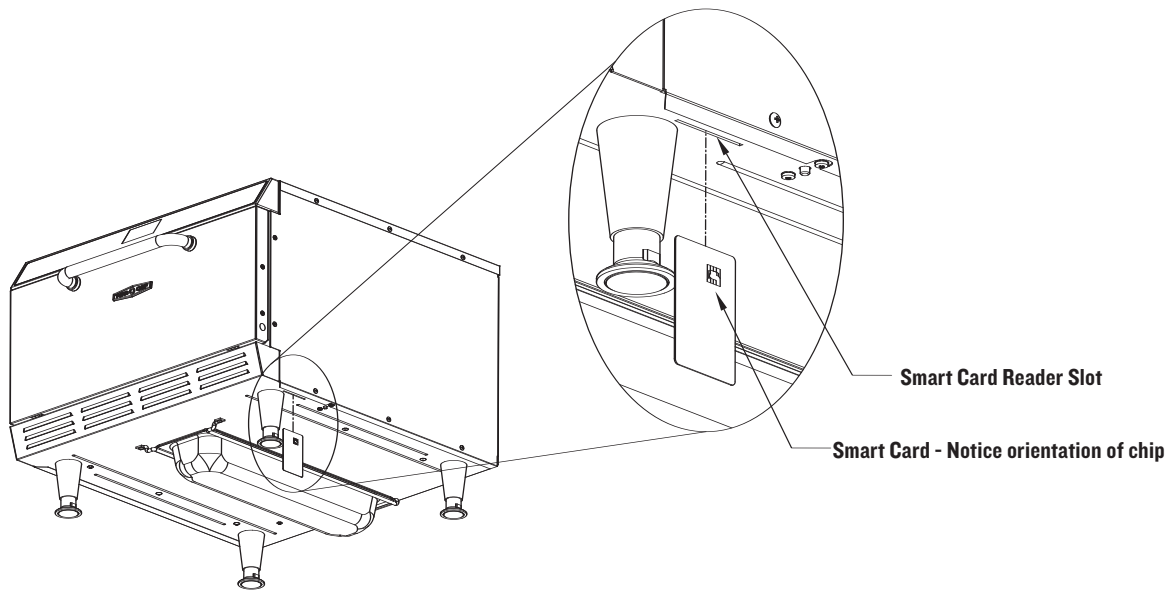

FIGURE 19: Inserting Smart Card into Reader
Loading Menu from Smart Card (Figures 19 and 20)
2. Insert Smart Card into Smart Card Reader. Orient card as shown in Figure 19.
Saving Menu to Smart Card (Figures 19 and 21)
3. Insert Smart Card into Smart Card Reader Orient card as shown in Figure 19.